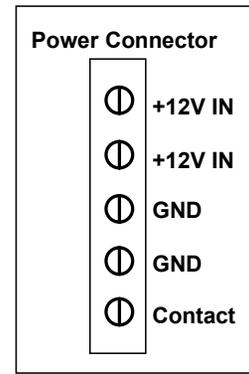

Fig. 14 Power Connector
(16): Power Connector. Labeled on the PCB with **POWER**. The detailed lay out of this connector is shown in Fig. 14. There are two **+12V** and two **Ground** connections and a **Contact** connection (NOT USED). The power is protected with a fuse of 25A MAX.